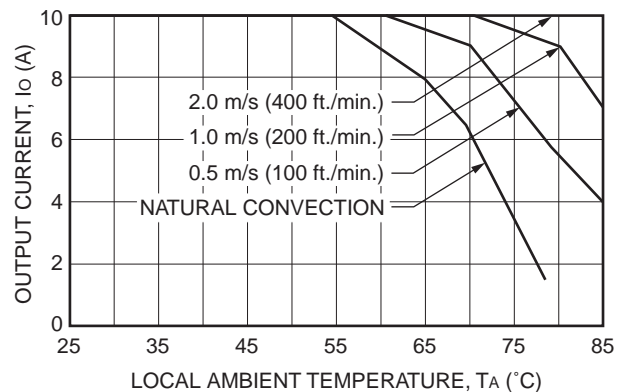

Figure 45. Derating Curves for QW010A0A1 (VO = 5.0V) in Longitudinal Orientation with no heat sink (VI = 48 Vdc).
Increasing airflow over the module enhances the heat transfer via convection. Figures 45—55 show the maximum current that can be delivered by various modules versus local ambient temperature (TA) for natural convection through 2 m/s (400 ft./min.).